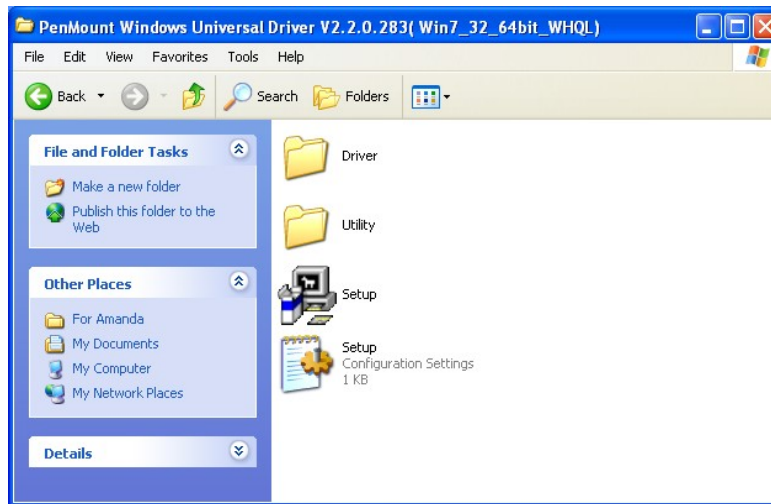

Figure 5-1: Setup Icon
- Step 3:** Select the **Touch Screen** option in the menu of driver CD. The directory in **Figure 5-1** appears.
Step 4: Double click the setup icon in **Figure 5-1**.